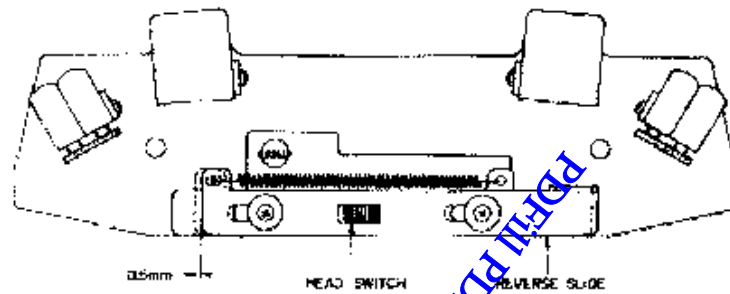

Fig. 7
15. INSTALLATION POSITION ADJUSTMENT OF HEAD SWITCH SW-3 (Refer to Figs. 7 and 12)